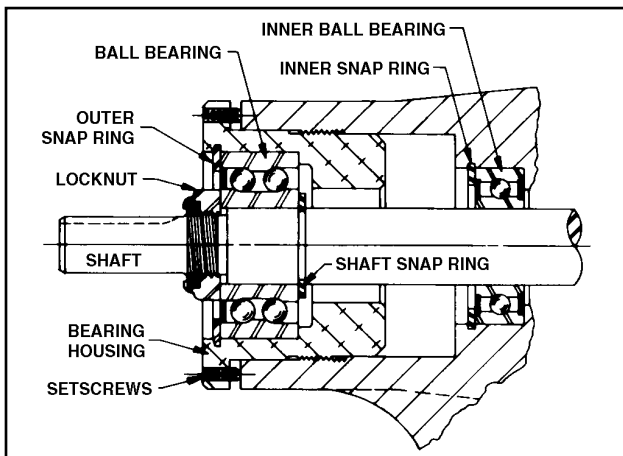
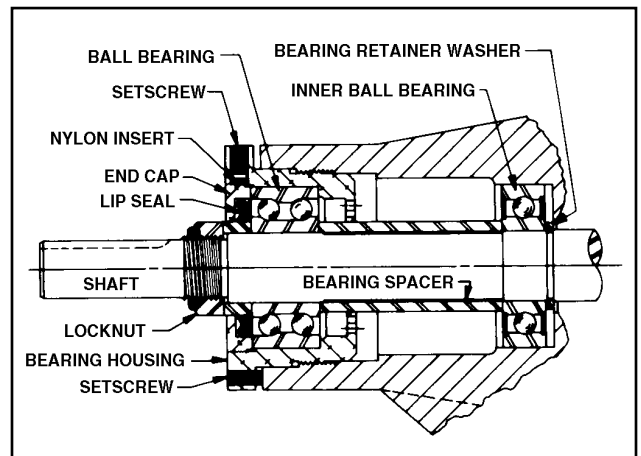

Figure 25 - Thrust-Bearing assembly (GG, HJ, HL)
Figure 26 - Thrust-Bearing assembly (AS, AK, AL)
5. Insert a brass bar or piece of hardwood in the port opening and between rotor teeth to keep shaft from turning. Turn the locknut counterclockwise and remove locknut. See Figure 25 or 26.
6. Loosen two setscrews in face of bearing housing and turn thrust bearing assembly counterclockwise and remove from casing. See Figure 25 or 26.
7. GG, HJ, HL: Remove snap ring from shaft. See Figure 25. **AS, AK, AL:** Remove bearing spacer from shaft. See Figure 26.
10. AS, AK, AL: Remove bearing retainer washer. The washer may have stayed with rotor and shaft when removed or is against ball bearing. See Figure 26.
GG, HJ, HL: Remove outer snap ring from bearing housing and remove ball bearing. See Figure 25.
AS, AK, AL: Loosen two set screws in flange outside diameter. Rotate end cap and lip seal counterclockwise and remove. Remove ball bearing. See Figure 26.
12. **GG, HJ, HL:** Install shaft snap ring in groove in the shaft. See Figure 25.
AS, AK, AL: Install bearing spacer over shaft and against single row ball bearing. See Figure 26.
13. **Pack lubrication chamber between** inner ball bearing and double-row ball bearing in the thrust-bearing assembly approximately one-half full of multipurpose grease, NLGI #2. The thrust-bearing assembly will take the remaining space. See Figure 25 and 26.
GG, HJ, HL: Install ball bearing into bearing housing with shield side toward coupling end of shaft. See Figure 26. Install snap ring into bearing housing to retain ball bearing. This snap ring has a tapered edge to fit tapered groove in bearing housing. The tapered edge is located away from ball bearing.
AS, AK, AL: Install ball bearing into bearing housing. Install lip seal in bearing housing end cap. The lip should face towards end of shaft. Put bearing spacer collar in lip seal and install in bearing housing and tighten setscrews securely. See Figure 26.
See Figures 25 and 26.